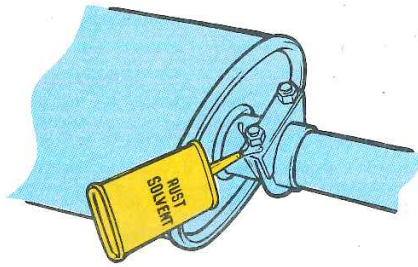

Fig. 25-6. Rust penetrant or solvent will ease removal of badly rusted fasteners. (AP)
1. Use RUST PENETRANT on all threaded fasteners that will be reused, Fig. 25-6. This is especially important on the exhaust manifold flange nuts or bolts.